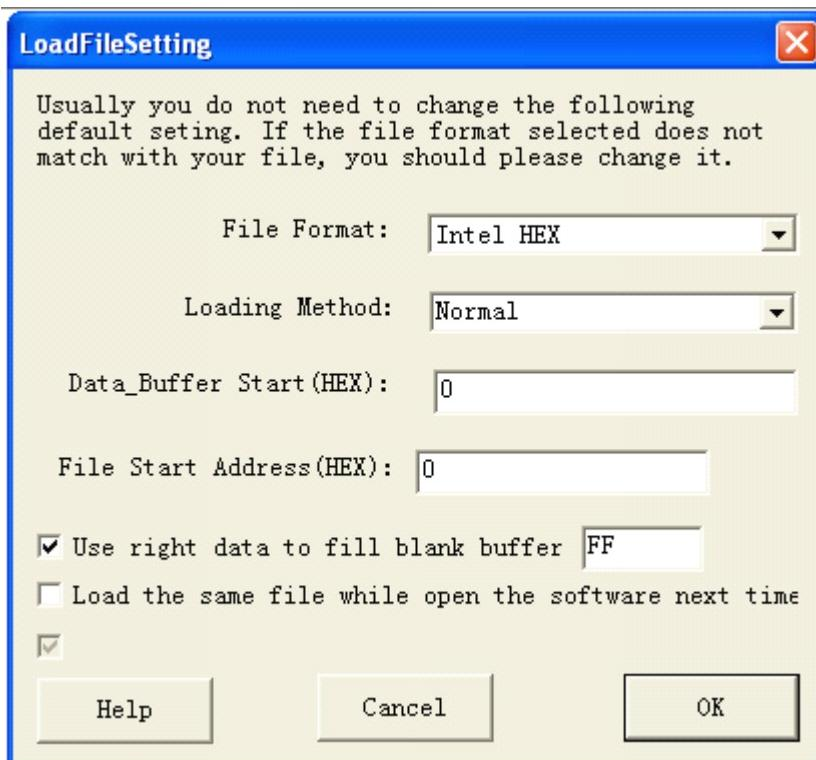

Figure 26: Getting Start Loading file setting
Step 2: Load file data2.hex. Refer to Figure 26, change the value of “Data Buffer Start” to the value equal to the location where is you want to link to. **Don't select the check box “Use right data to fill blank buffer”**
Recommend: Please select the check box “Load the same file while launch the the software next time” in the “LoadFileSetting” window. See the Figure 26